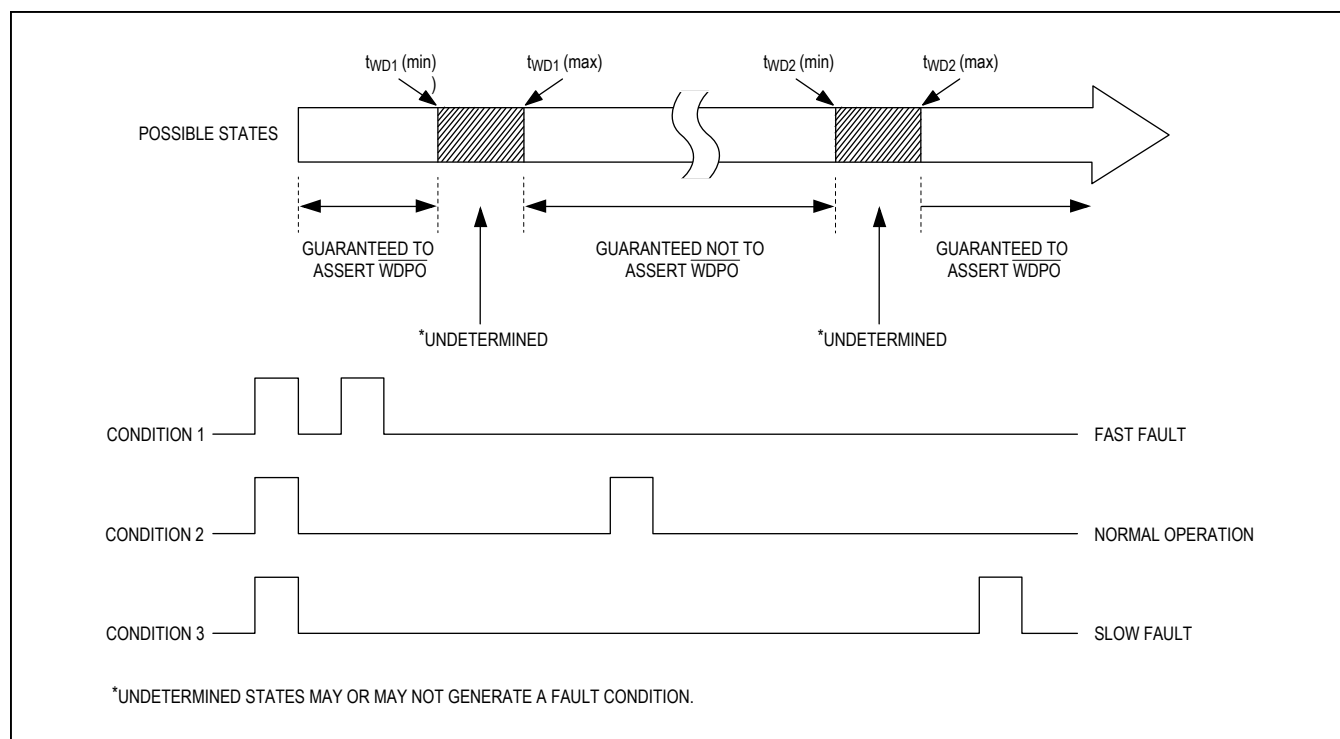
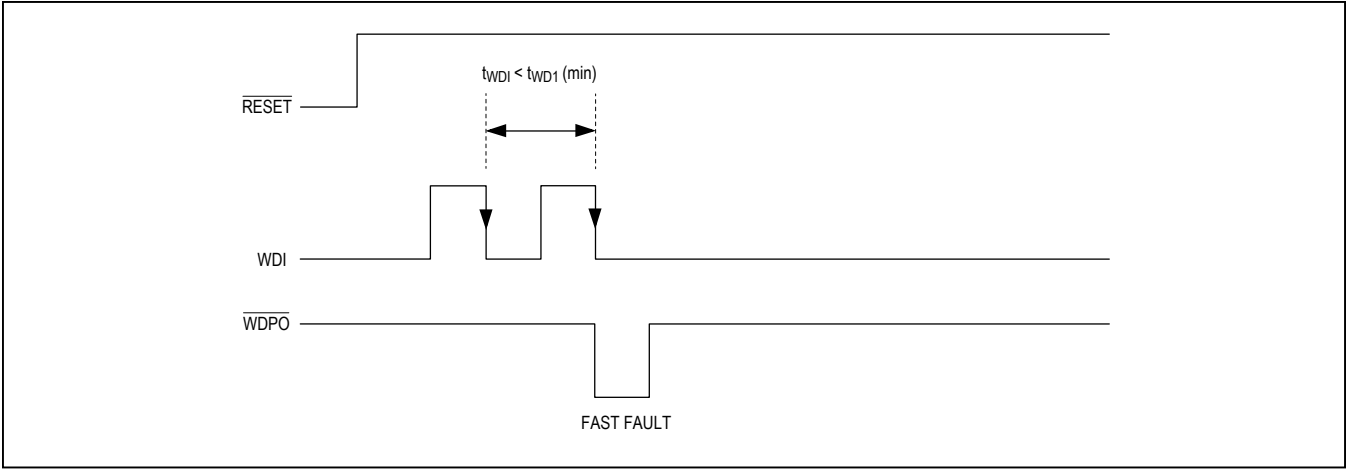
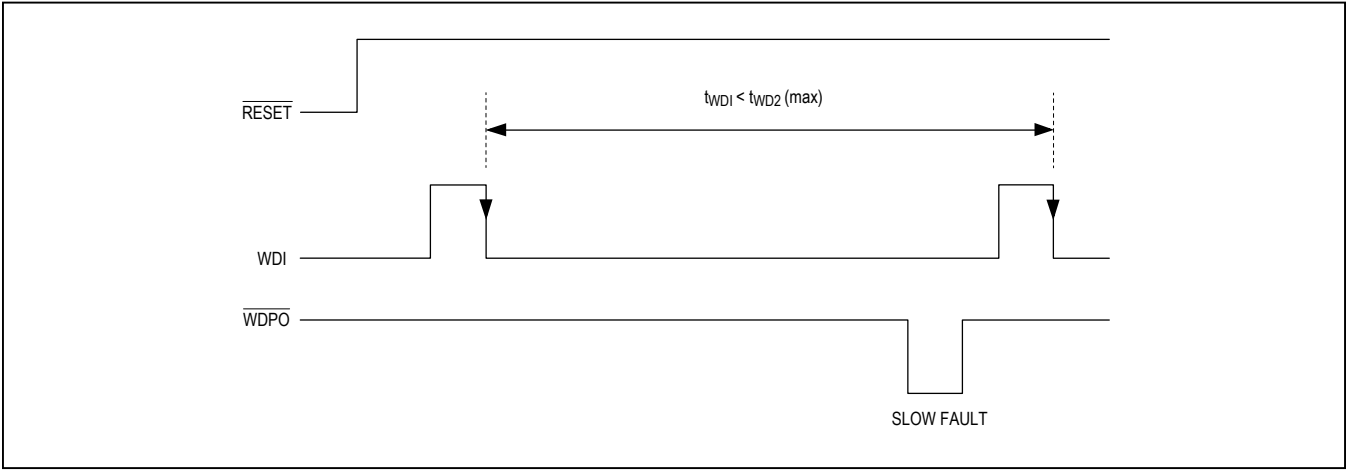

Figure 1. Detailed Watchdog Input Timing Relationship
Figure 2. Fast Fault Timing
Figure 3. Slow Fault Timing
*See Figure 1 for operation.
The MAX6323/MAX6324 μP supervisory circuits maintain system integrity by alerting the μP to fault conditions. In addition to a standard V_{CC} monitor (for power-on reset, brownout detect, and power-down reset), the devices include a sophisticated watchdog timer that detects when the processor is running outside an expected window of operation for a specific application. The watchdog signals a fault when the input pulses arrive too early (faster than the selected t_{WD1} timeout period) or too late (slower than the selected t_{WD2} timeout period) (Figure 1). Incorrect timing can lead to poor or dangerous system performance in tightly controlled operating environments. Incorrect timing could be the result of improper μP clocking or code execution errors. If a timing error occurs, the MAX6323/MAX6324 issue a watchdog pulse output, independent from the reset output, indicating that system maintenance may be required.
than t_{WD1}) (Figure 2) or falling edges that are too far apart (slower than t_{WD2}) (Figure 3), $\overline{WDPO}$ is pulsed low. Normal watchdog operation is displayed in Figure 4 ($\overline{WDPO}$ is not asserted). The internal watchdog timer is cleared when a WDI falling edge is detected within the valid watchdog window or when the device's $\overline{RESET}$ or $\overline{WDPO}$ outputs are deasserted. All WDI input pulses are ignored while either $\overline{RESET}$ or $\overline{WDPO}$ is asserted. Figure 1 identifies the input timing regions where $\overline{WDPO}$ fault outputs will be observed with respect to t_{WD1} and t_{WD2} . After $\overline{RESET}$ or $\overline{WDPO}$ deasserts, the first WDI falling edge is ignored for the fast fault condition (Figure 2).